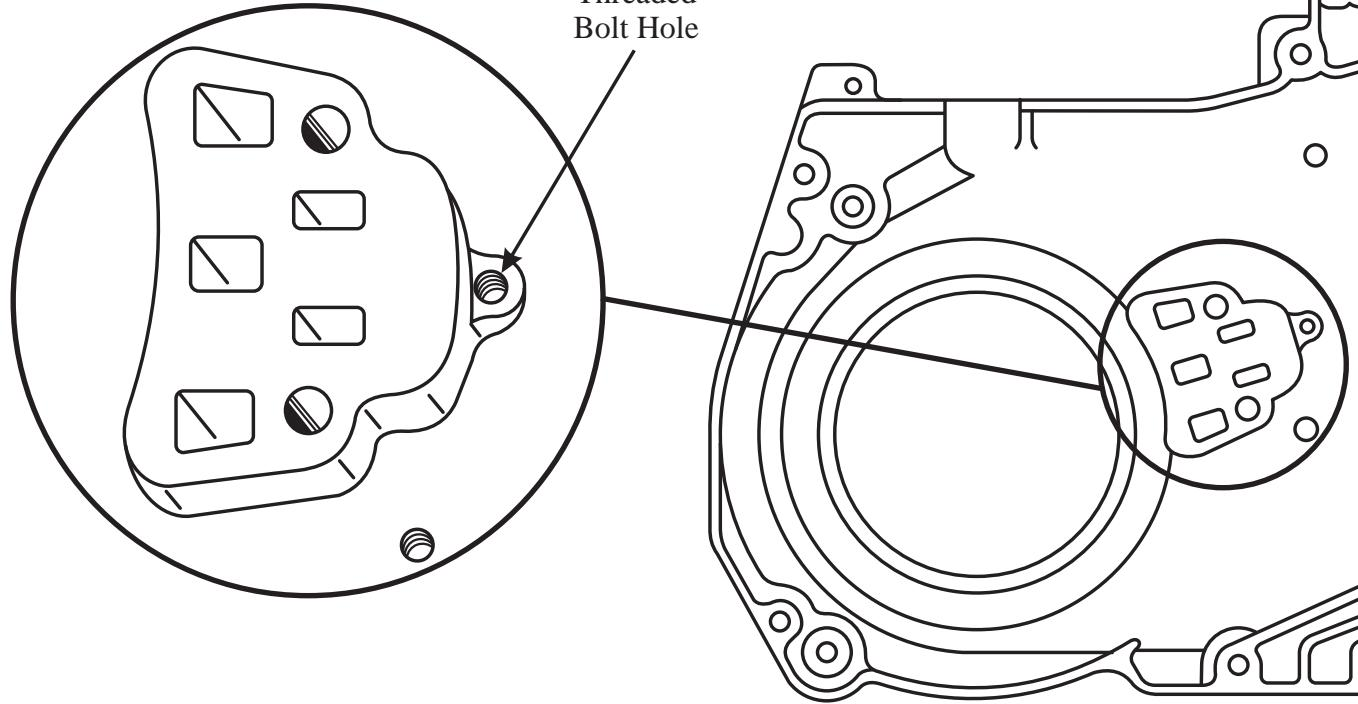

Figure 3
- (2) **CHANNEL PLATE** - New casting with an added boss, and one of the threaded holes in the channel plate changes to a non-threaded hole to accomodate the valve body bolt changes for improved clamping force. The previous design channel plate is shown in Figure 3, and the new design channel plate is shown in Figure 4.